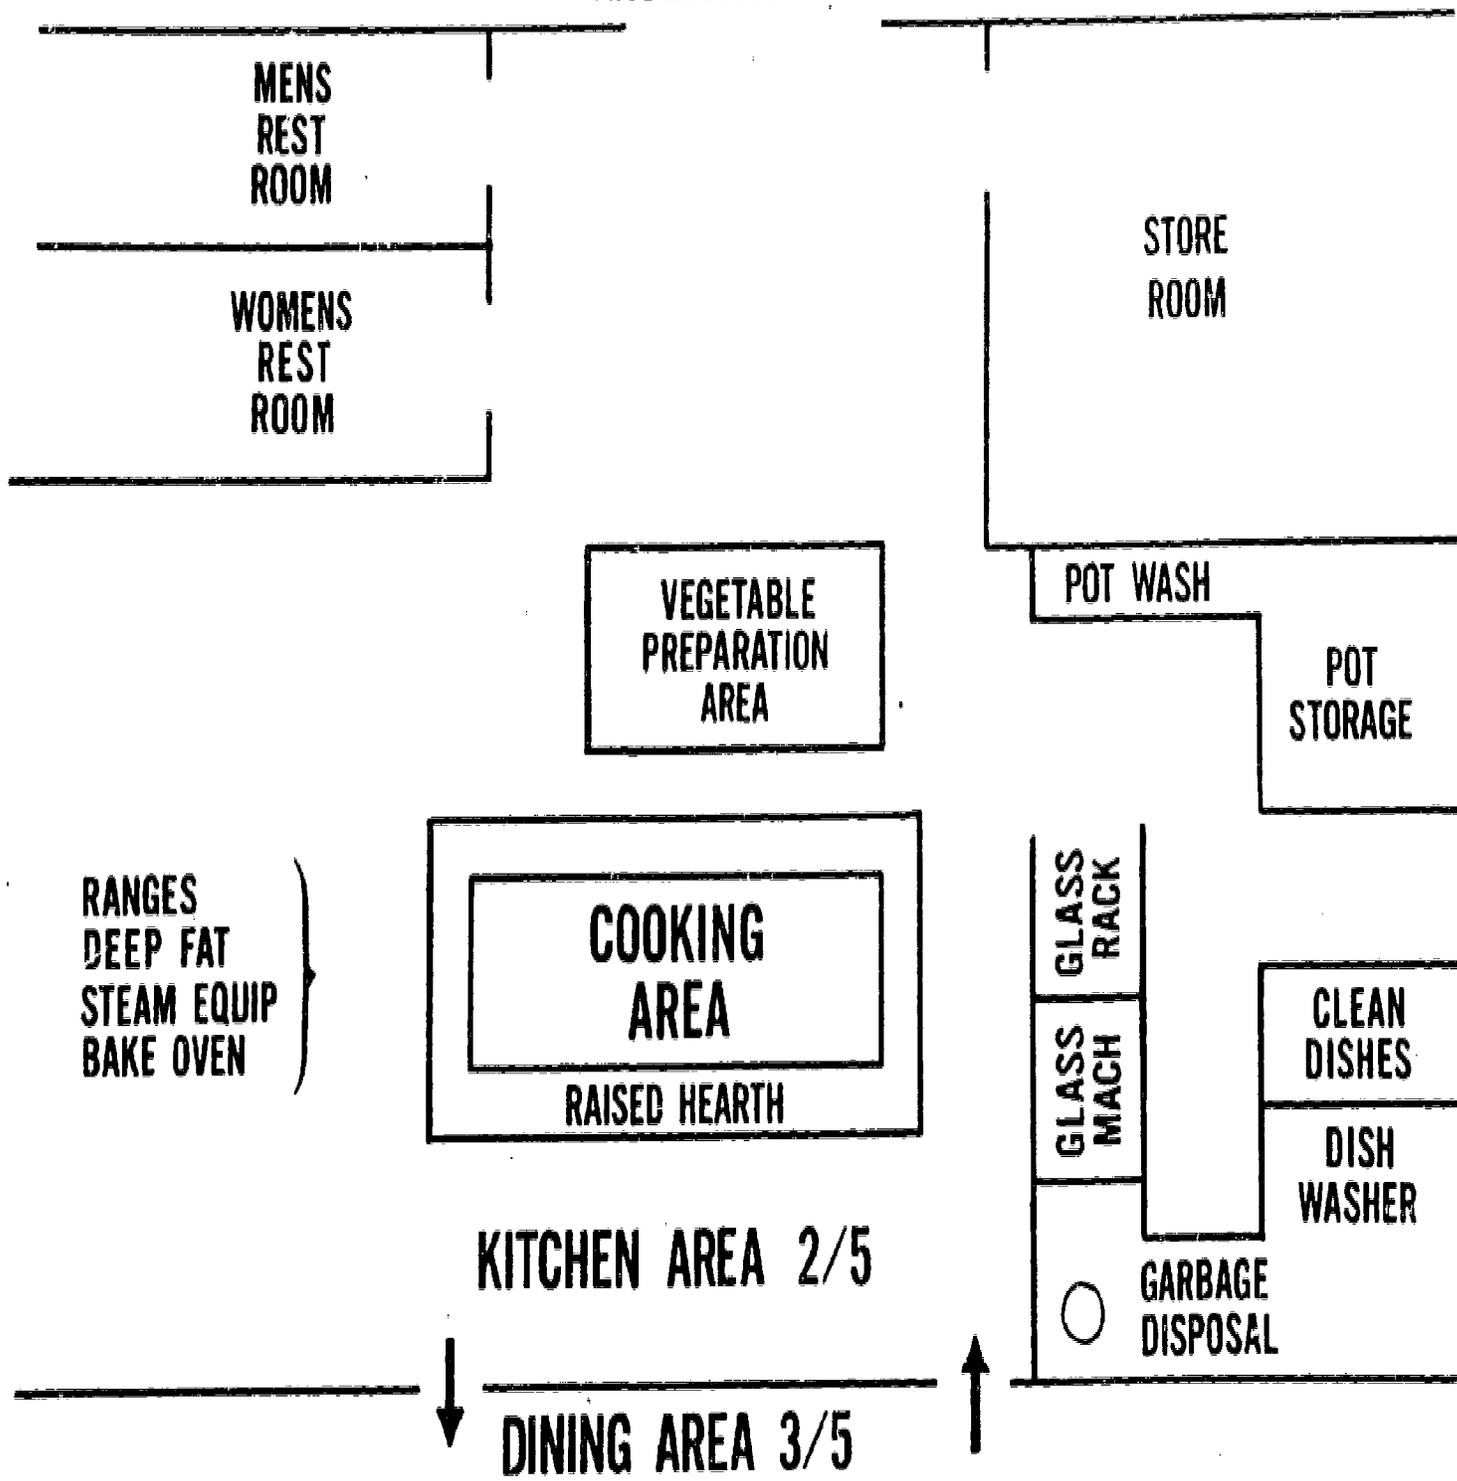

Figure 1. Layout for a kitchen area (suggested).
j. **AREA LAYOUT.** An example of a layout for a kitchen area is shown in figure 1. However, space allotment for the kitchen must always be worked out as an individual problem subject to compromises.
(2) For the kitchen, a starting point can be made by using the 3/5 rule (c above). Applied to a dining facility of 2,000 square feet, approximately 800 square feet might be allocated to the kitchen. At this point a drawing to scale of the outside walls of the kitchen and dining room should be made and the kitchen divided into major areas (fig. 1). Equipment for 100-diner capacity service should be selected. However, the maximum meal load, plans for expansion, if any, and cost of equipment should be taken into consideration when evaluating equipment. The maximum meal load may require more equipment than originally planned. If expansion is planned, ways to facilitate this expansion should be taken into consideration. Equipment should be no more costly than is required for the operation.
(3) Templates to scale should be cut of the selected equipment and the templates arranged in the major areas of the kitchen on the drawing. After arranging the equipment properly, changes in the plan can be made and a complete plan made by an engineer draftsman.